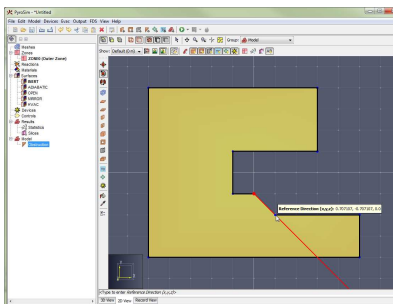

Figure 98. Define reference vector
4. Single-click another point to define a **reference vector** from the first point to the second point (Figure 98). This **reference vector** is what the angle is based from.